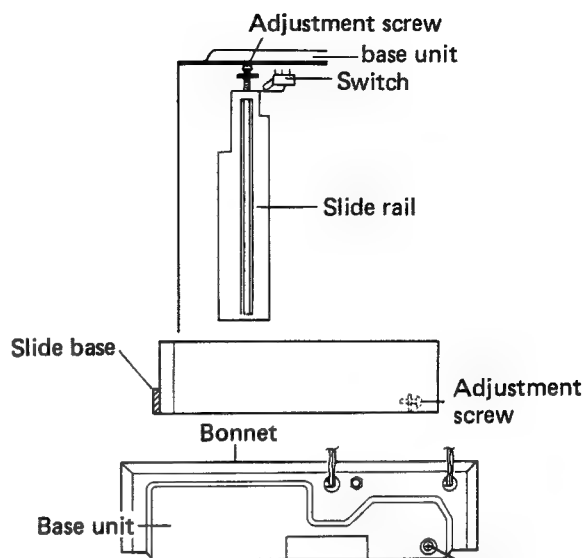

Fig. 1-23 Normal inserted slide base position adjustment
■ Mounting Gear (F)
2. Then while pushing the drive lever rack and slider towards the front panel, insert gear (F) into the escutcheon cover gear (F) mounting boss. Be careful not to push the slider too firmly (towards the front panel) since the slide base cover might also move.
3. Secure gear (F) by screwing in the relevant screws. After tightening the screws, press against the top of the door to check that the door is not loose.
- D. This adjustment simply involves turning the adjustment screw from the rear of the turntable as shown in Fig. 1-23. A full turn of the screw changes the slide base position by about 0.5mm.
6. Undo screws ⑤ and remove the lead guide. Then without applying too much force, carefully disconnect the leads from the tonearm and other parts.
7. Remove the tonearm section by undoing screws ⑥.